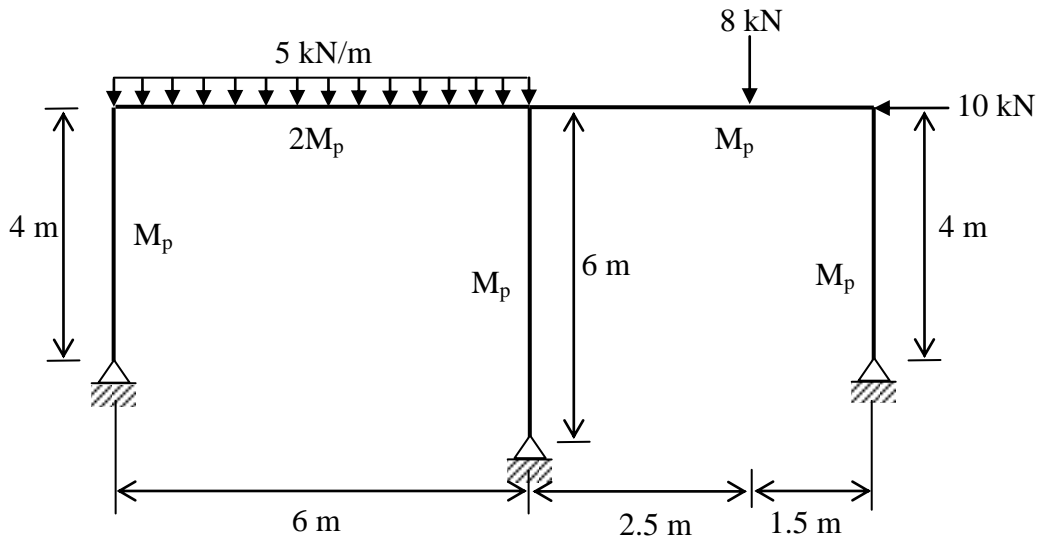

Figure 8
- (b) Sketch all possible collapse mechanisms for the two bay portal frame to carry the working loads as shown in Figure 8 and determine the collapse load factor. The plastic moment capacities of all members are given in the figure. It is given that the plastic moment capacity M_p is 30 kNm.